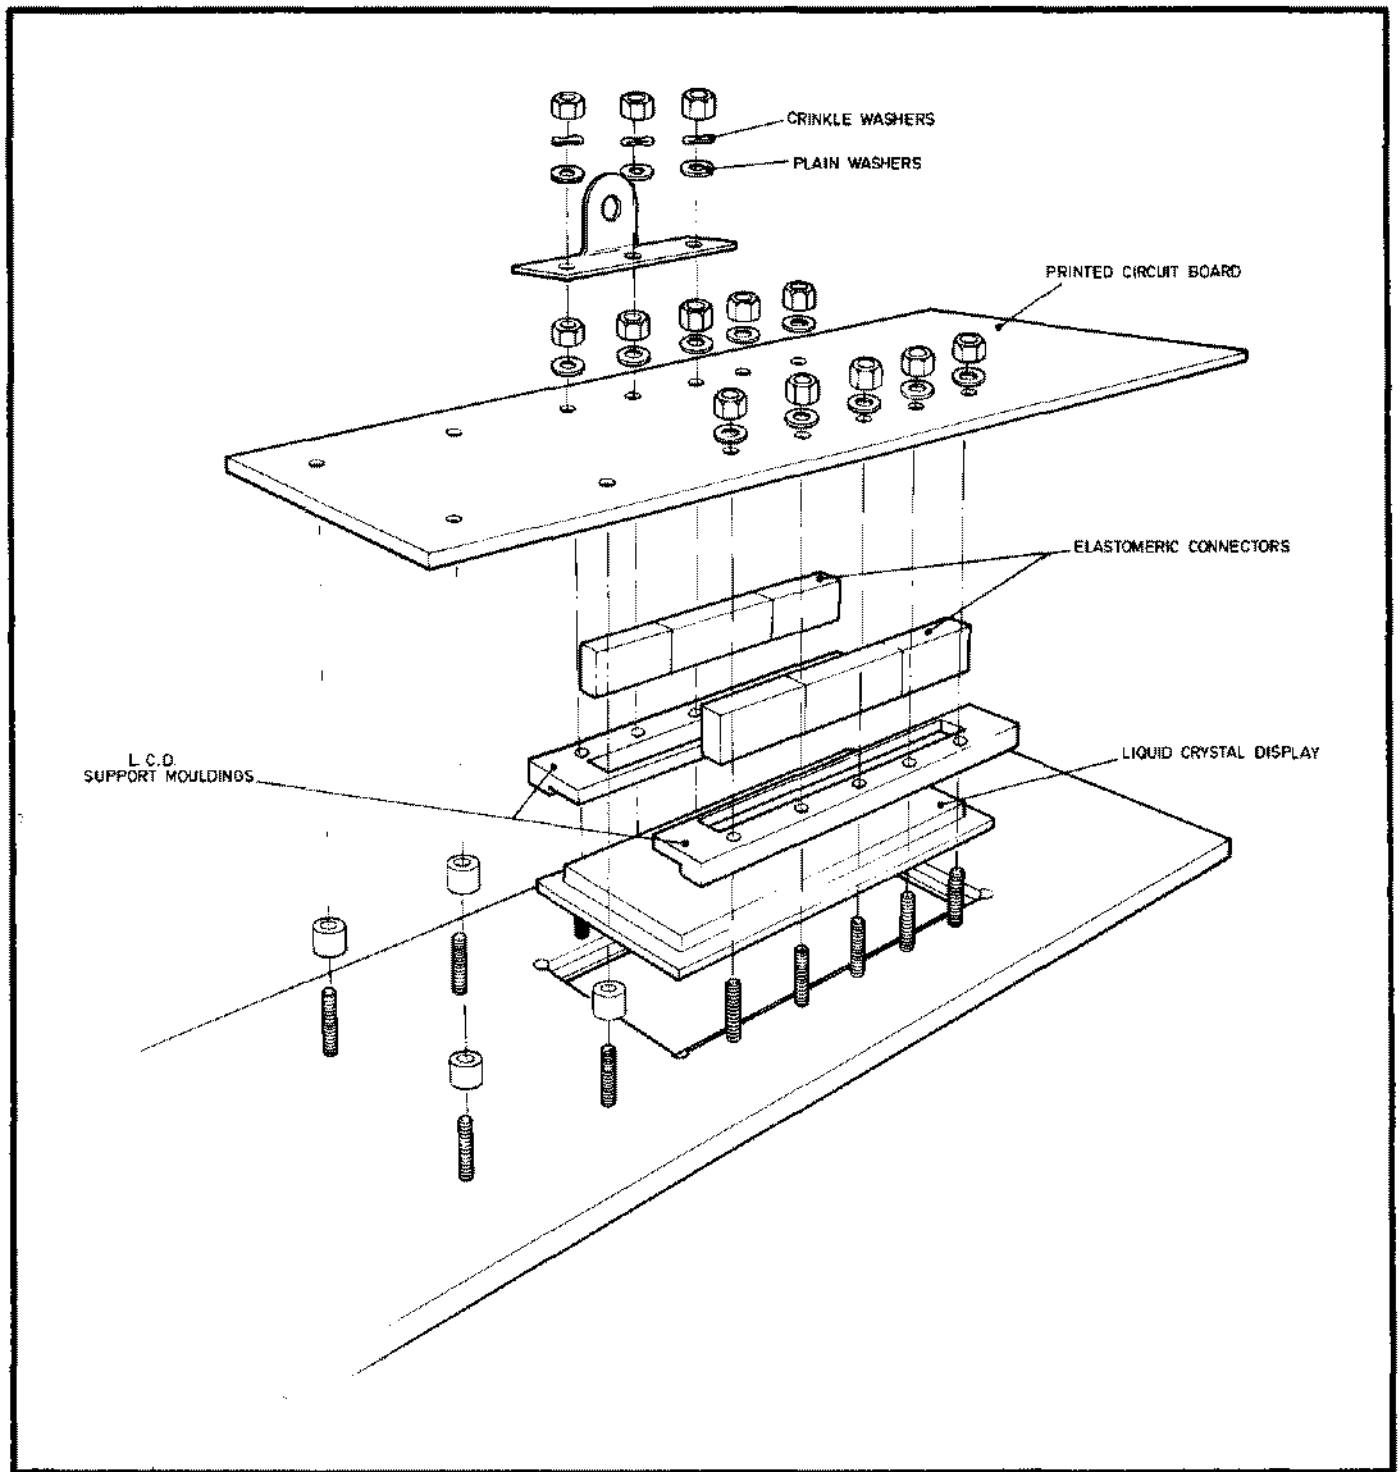

Fig. 6.13 Fitting the Liquid Crystal Display
(2) Avoid all contamination of the elastomeric contact strips with grease from fingers or tools.
6.6.6.2 The fitting of the LCD is illustrated in Fig. 6.13. The fitting procedure is as follows: